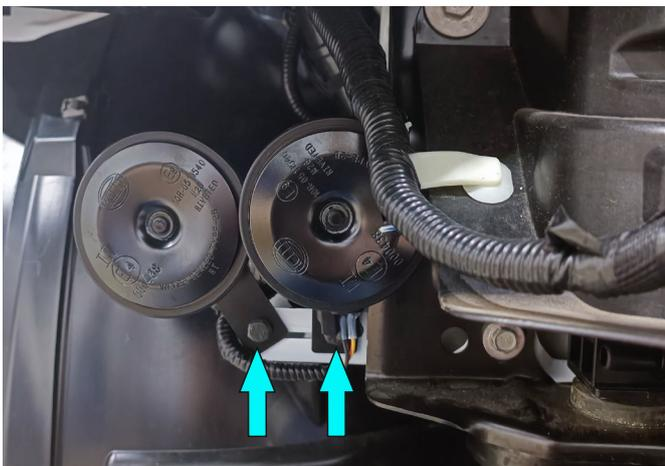

Fig.17
17. Install OE horn as shown in fig 17. and fix it using OE bolts.